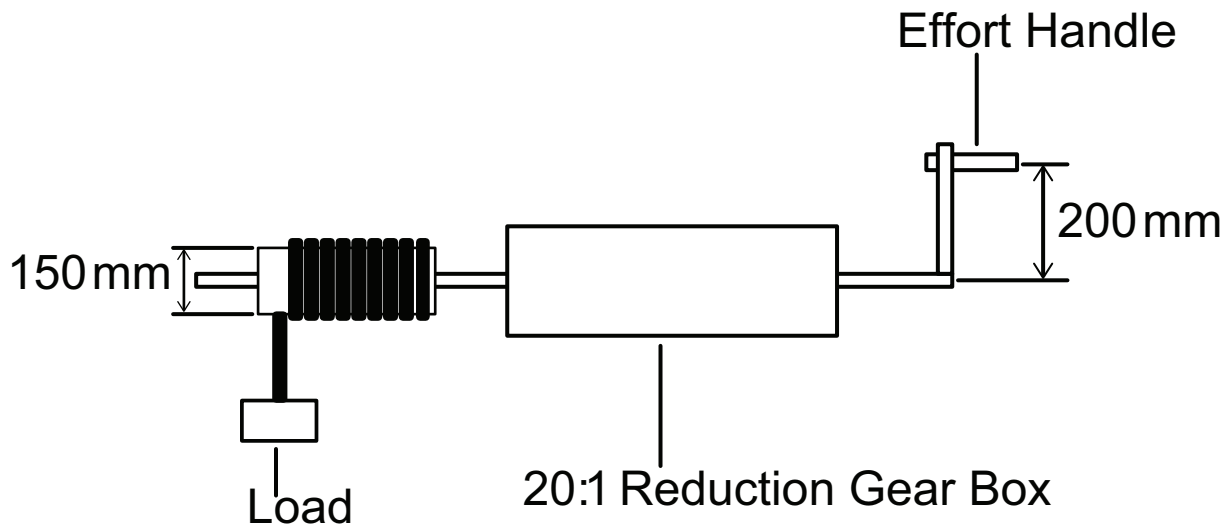
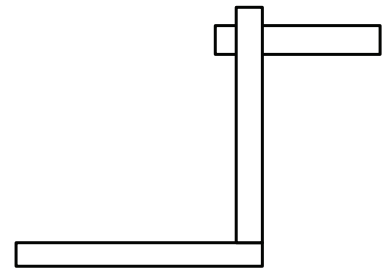

Fig. 9
Fig. 10
(d) **Fig. 9** shows a winch used for raising loads. The load drum is driven through a gearbox which gives a **20:1** reduction in speed.
- (iv) Complete **Fig. 10** to produce a 2D sketch showing a suitable gear arrangement for the gearbox in **Fig. 9**. Gears should be selected from those listed below.